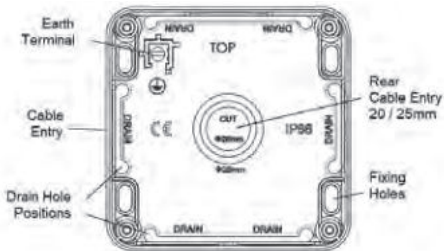

Fig. 2
- The backbox has drain hole drilling guides marked (see Fig. 2). Drilling a drain hole is advised if the unit is installed in a location subject to temperature fluctuations where build-up of condensation may occur. It is not advised if the unit will be subject to spray or jets, as drilling a drain hole will reduce the IP rating. A 3-5mm hole can be drilled at the bottom back edge of the enclosure where marked. If wiring in conduit to the bottom entry, the drain hole should be drilled at the lowest point of the conduit run and not in the backbox